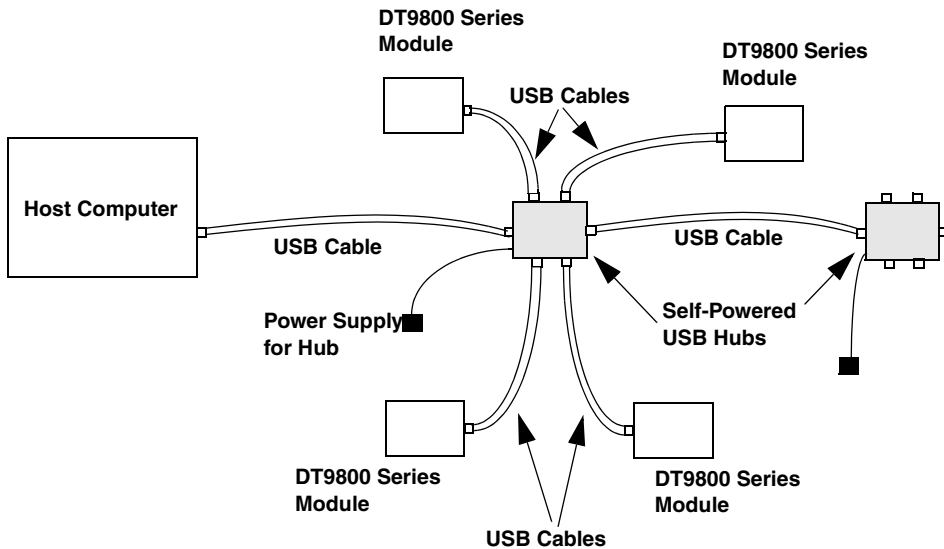

Figure 3: Attaching Multiple Modules Using Expansion Hubs
5. Repeat these steps until you have attached the number of hubs and modules that you desire. Refer to Figure 3.